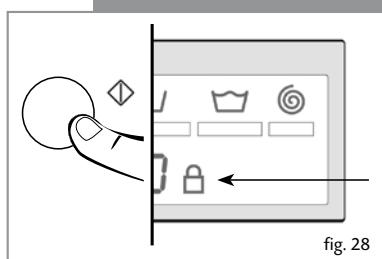

fig. 28
- The lock function is activated by pressing the Start/Pause button and holding it down for at least 3 seconds (Figure 28).